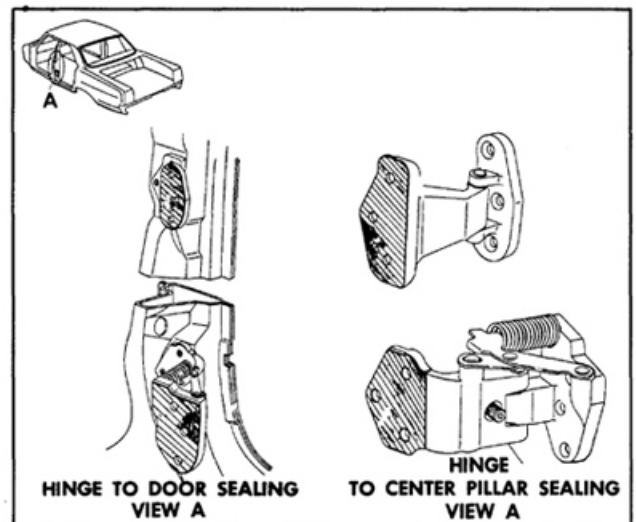

Fig. 16-352 Hinge Sealing Area
2. As an anti-squeak precaution and to prevent entry of water at hinge attaching locations, apply a coat of heavy-bodied sealer to attaching surfaces of hinges. (Fig. 16-352)